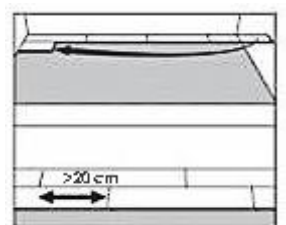

Figure 2
11. Position the first plank of the second row by angling it up slightly, pushing forward and interlocking the side tongue (**Figure 2**). Slide the plank to the right to align the edges of the end joint.